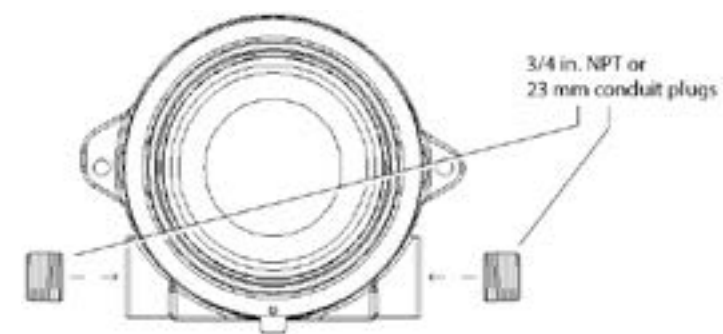

Figure 8. Detector, front view
- a. If only one conduit entry is used, install and seal the conduit plug on the unused entry ( $\frac{3}{4}$  in. NPT or 23 mm, as shown in Figure 8).